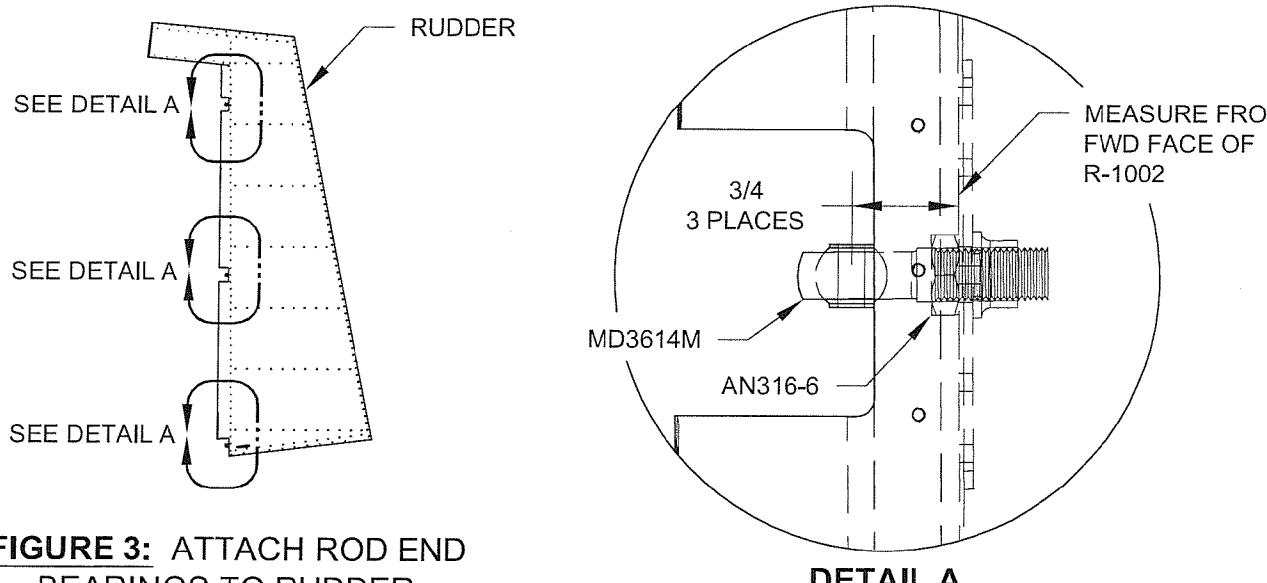

**FIGURE 1: TEMPLATE**
Step 2: Transfer the template shown in Figure 1 to a piece of stiff cardboard or wood. (To avoid cutting up your plans centerpunch through the paper just at the 3 corners.) Adjust the rod end bearings on the F-1091 Elevator Pushrod until the angle of the F-635 Bellcrank Assembly matches that of the template as shown in Figure 2.